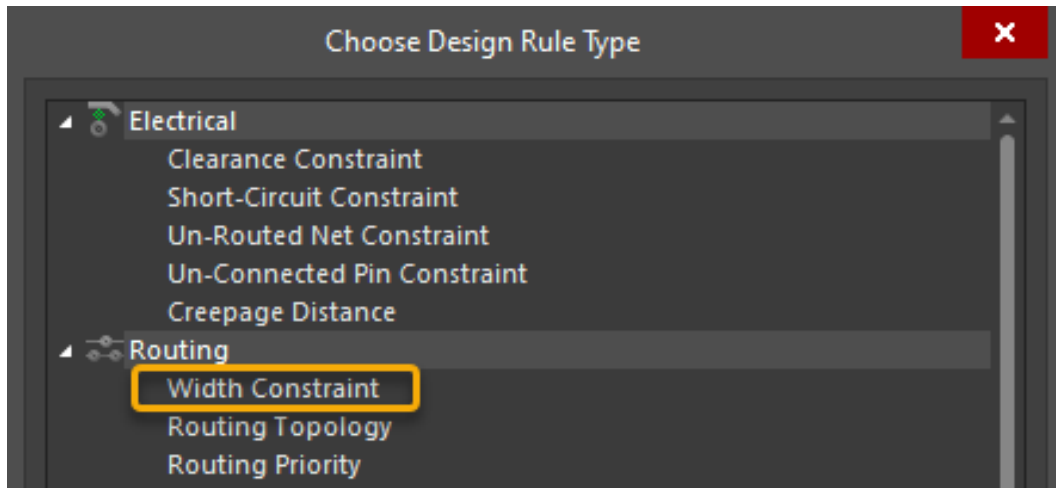

Figure 8. Width Constraint Rule
d) Select the *Width Constraint* rule from within the *Routing* section shown in Figure 8 below.